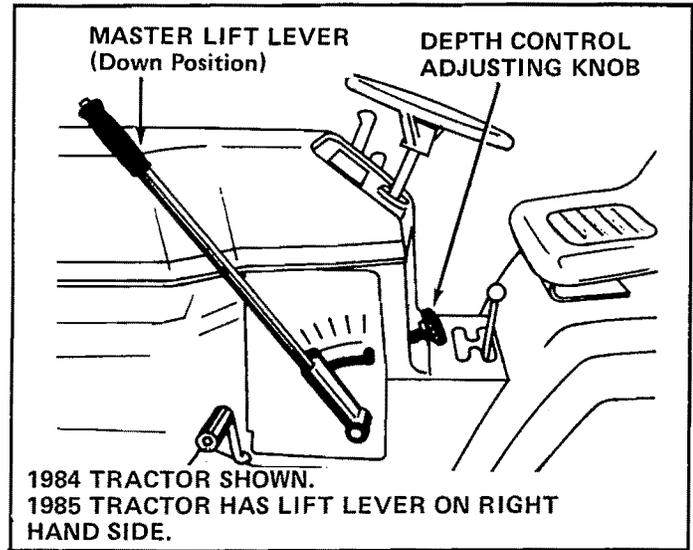

FIGURE 13
11. Adjust master lift lever movement with depth control adjusting knob for maximum movement and to prevent lever from locking in the down lock notch. See figure 13.